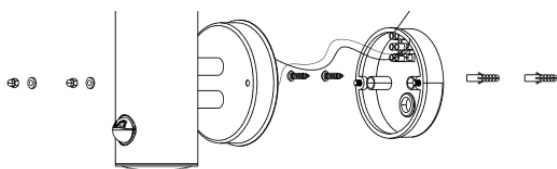

FIGURE 6
- (5) Fit the Column Light to the mounting plate and secure with the two nuts. FIGURE 6